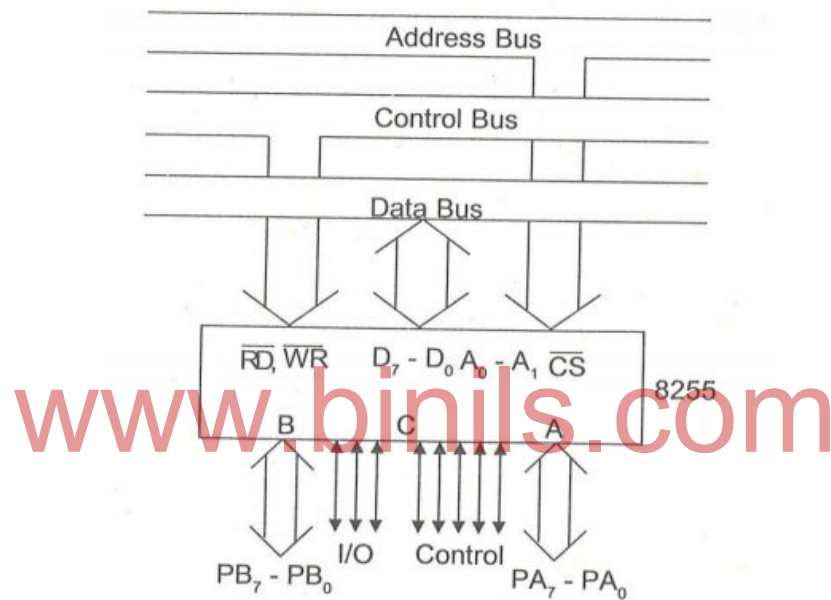

Fig 5.7 Mode 2-Bidirectional Mode
- In this mode data transfer is done in both directions between microcontroller and peripheral devices. Shown in the fig 5.7 mode 2 – bidirectional mode